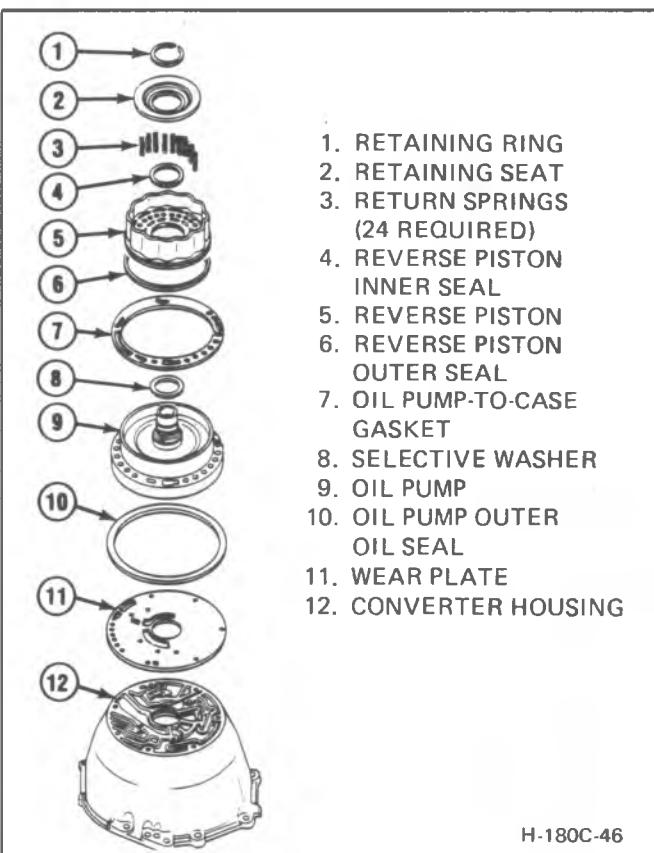

Figure 40 Exploded View of Converter Housing, Oil Pump and Reverse Clutch
Remove or Disconnect (Figures 40 and 41)
Disassemble (Figures 40 and 42)
**Assemble (Figures 40, 48 nd 49)****Tools Required**